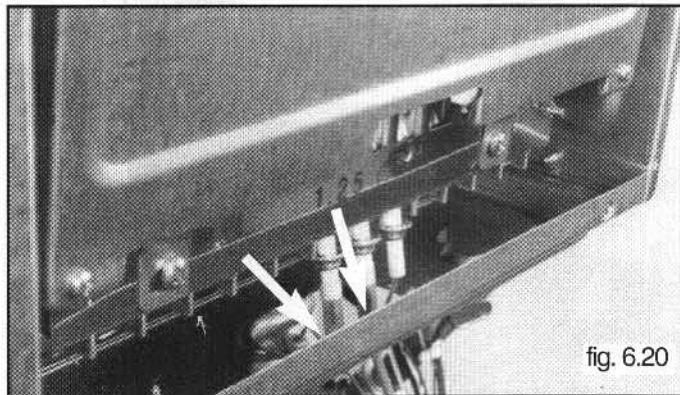

fig. 6.20
- c Check that the transparent silicone pipe covers the cable-electrode connection point adequately (see fig. 6.20);